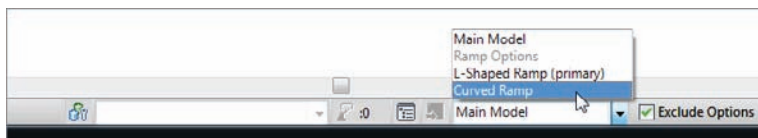

FIGURE 21.12 Jumping into an option
1. Switch to the Curved Ramp option, as shown in Figure 21.12.